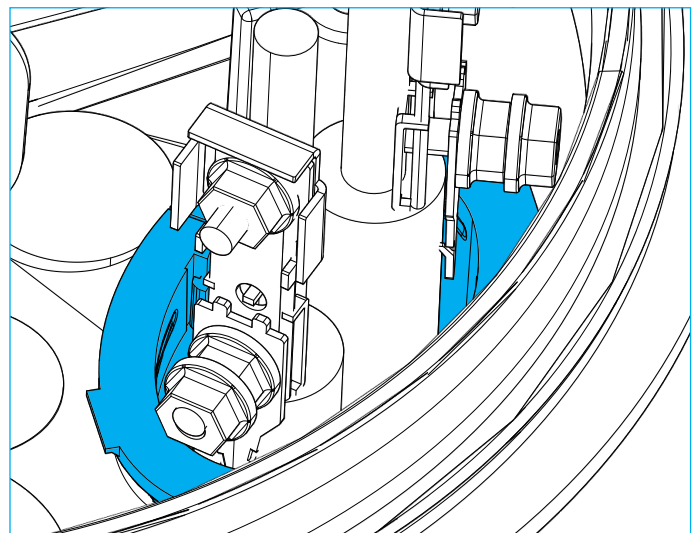

Figure 28.
9.2.5.10 Pull the cable down until the spacer is completely bottomed out in the Base. (Figure 28)